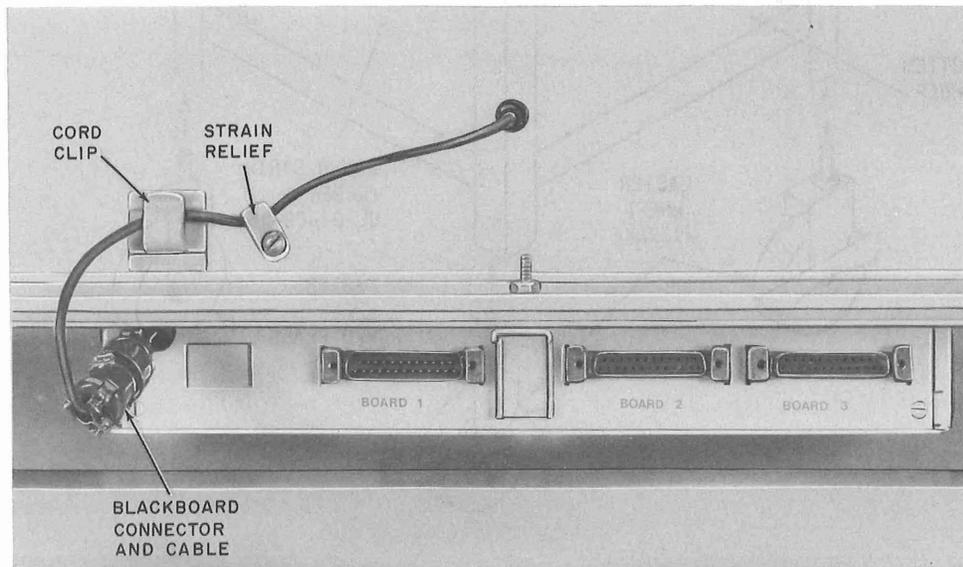

Fig. 32—Control Unit Installed—Rear View
5.13 Connect blackboard cable to control unit as shown in Fig. 32.
Note: It is difficult to connect the M25A cable and the blackboard cable to the 83A control unit after it is secured to a wall-mounted blackboard. Connect M25A cable(s) to control unit(s) per paragraph 5.53 (1), (3), and (4) prior to mounting blackboard. Also, connect blackboard cable (Fig. 32) prior to mounting the control unit.